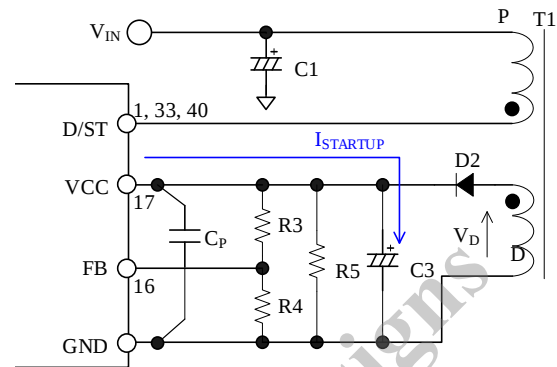

Figure 9-2. VCC Pin Peripheral Circuit
The IC incorporates the startup circuit. The circuit is connected to the D/ST pin. When the power supply voltage, V_{IN} , is applied, the internal startup circuit is activated. Then, the constant current, $I_{STARTUP} = 2.5$ mA, charges electrolytic capacitor, C3, connected to the VCC pin. When the VCC pin voltage increases to $V_{CC(ON)} = 15.3$ V, the control circuit starts operation. After the IC starts switching operation, the VCC pin voltage is the rectified auxiliary winding voltage, V_D , as shown in Figure 9-2.
When the voltage is detected by the auxiliary winding as shown in Figure 9-2, adjust the winding turns of D so that the VCC pin voltage becomes in the range of Equation (2).